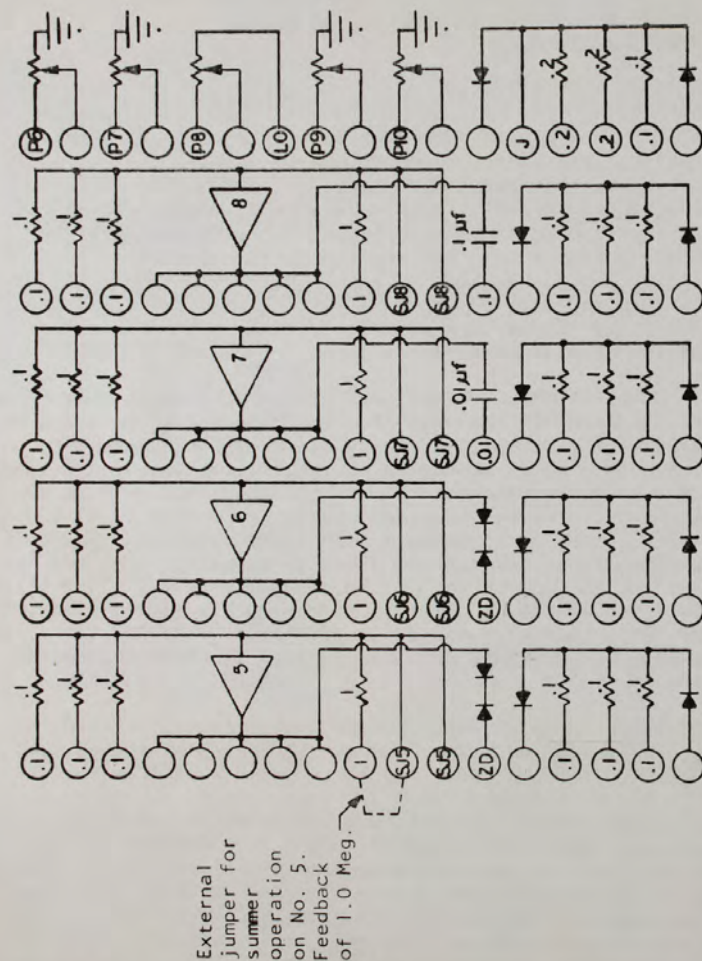

Figure 3-8, Patchboard Circuit Schematic, Summer-Diode Area.
(1) DIODE NETWORKS. The 5 x 5 matrix of holes at the bottom of the summer-diode area provides connections to the five diode networks the circuits of which are shown in Figure 3-8. Column 1 provides holes connected to two silicon junction diodes (at top and bottom of the column) and three 0.1 meg resistors, all tied together at a common summing junction. Columns 2, 3, and 4 provide connections to three more such diode networks. Column 5 has an extra hole at the top and provides connections to two diodes (at the top and bottom of the column), two 0.2 meg resistors, and one 0.1 meg resistor, all tied together at a common summing junction. This summing junction is available in column 5 and is the blue-circled hole labeled J and located 5th from the bottom of column 5.
(2) ZENER DIODES. The 1st and 2nd holes in row 12 have grey background and are labeled ZD. Each is connected to one terminal of a pair of back-to-back Zener diodes, the other terminal of which is connected to the output of amplifier 5 or 6, respectively, as shown in Figure 3-8. By patching the ZD hole to the blue SJ hole directly above, the amplifier output will limit at the Zener breakdown voltage of the diodes.
(3) CAPACITORS. The 3rd and 4th holes in row 12 have black and black-and-white circles surrounding them, and are labeled .01
and .1, respectively. They are connected to 0.01 and 0.1 mfd capacitors, the other terminals of which are connected to the outputs of amplifiers 7 and 8, as shown in Figure 3-8. Thus the capacitors can be patched as feedbacks around either amplifier. The use of these capacitors in hysteresis, sample-and-hold, and other circuits is described in the section on the Model 192 Diode Network Card.